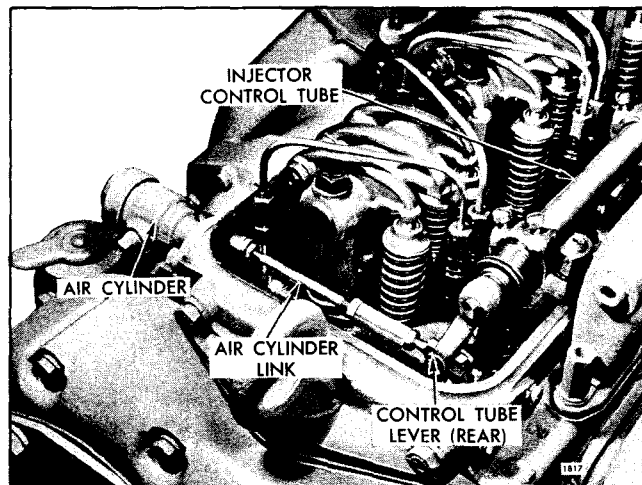

Fig. 5 - Air Cylinder Used with Limiting Speed Governor
An air cylinder (Fig. 5) is mounted at the rear of the cylinder head on some engines to move the injector fuel control racks to the no-fuel position to stop the engine. The air cylinder permits the use of a governor with a single control lever, eliminating the need of an off-on lever and the necessary operating linkage.
2. Loosen the lock nuts on the air cylinder link (Fig. 5) and lengthen the rod by turning the turnbuckle until the end of the slot contacts the pin in the end of the control tube lever. Then shorten the rod one complete turn of the turn buckle and tighten the lock nuts.